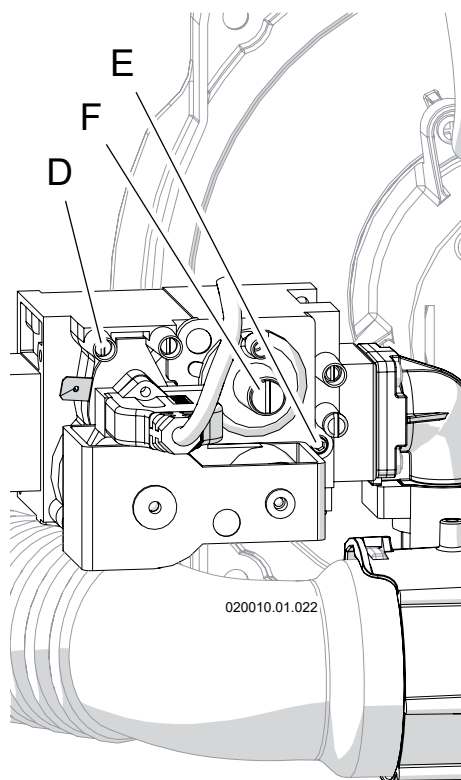

Figure 14-3 - Gas valve
- 3.- Turn the screw in pressure port "D" shown in Figure 14-3 three turns counterclockwise;
- 4.- Connect a manometer with graduations of at least 0.1 in.W.C. (0.25 mbar) to the inlet gas port "D" shown in Figure 14-3 (on unit model 399 to 1000, choose the pressure port "D" from any gas valve present);
- 3.- Turn the screw in pressure connection "D" in Figure 14-3, clockwise until snug;
- 4.- Check pressure port "D" (Figure 14-3) for any gas leaks;
the high fire range given in Figure 13-7, making sure to use the range for the gas type in use. If the CO2 reading is outside the specified range, it must be adjusted operating on the "E" screw of Figure 14-3. Use a 2.5mm Allen Wrench to turn the screw (clockwise to reduce the CO2 level, counter-clockwise to increase the CO2 level) in small increments and wait for the CO2 to stabilize to prevent overshooting the desired value;
- e. Compare the CO₂ reading with the high fire range given in Figure 13-7, making sure to use the range for the gas type in use. If the CO₂ reading is outside the specified range, it must be adjusted operating on the "E" screw of Figure 14-3 of the gas valve closer to the burner unit in fire. Use a 2.5mm Allen Wrench to turn the screw (clockwise to reduce the CO₂ level, counter-clockwise to increase the CO₂ level) in small increments and wait for the CO₂ to stabilize to prevent overshooting the desired value;
- f. When CO₂ level match the value of Figure 13-7, seal screw "E" (Figure 14-3) with red paint or nail polish to discourage tampering;